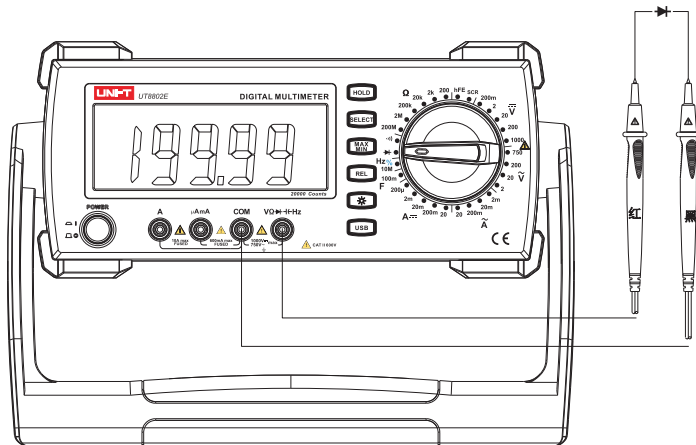
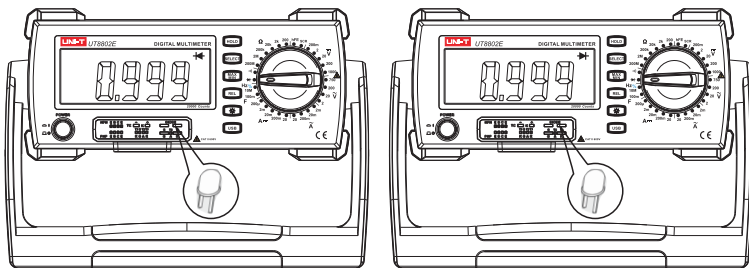

Figure 8
Figure 9
8. Measurement of Diode (see Figure 8, Figure 9)
1. Insert adaptor UT-S03A into where it is required to be loaded on the instrument (Figure 9).